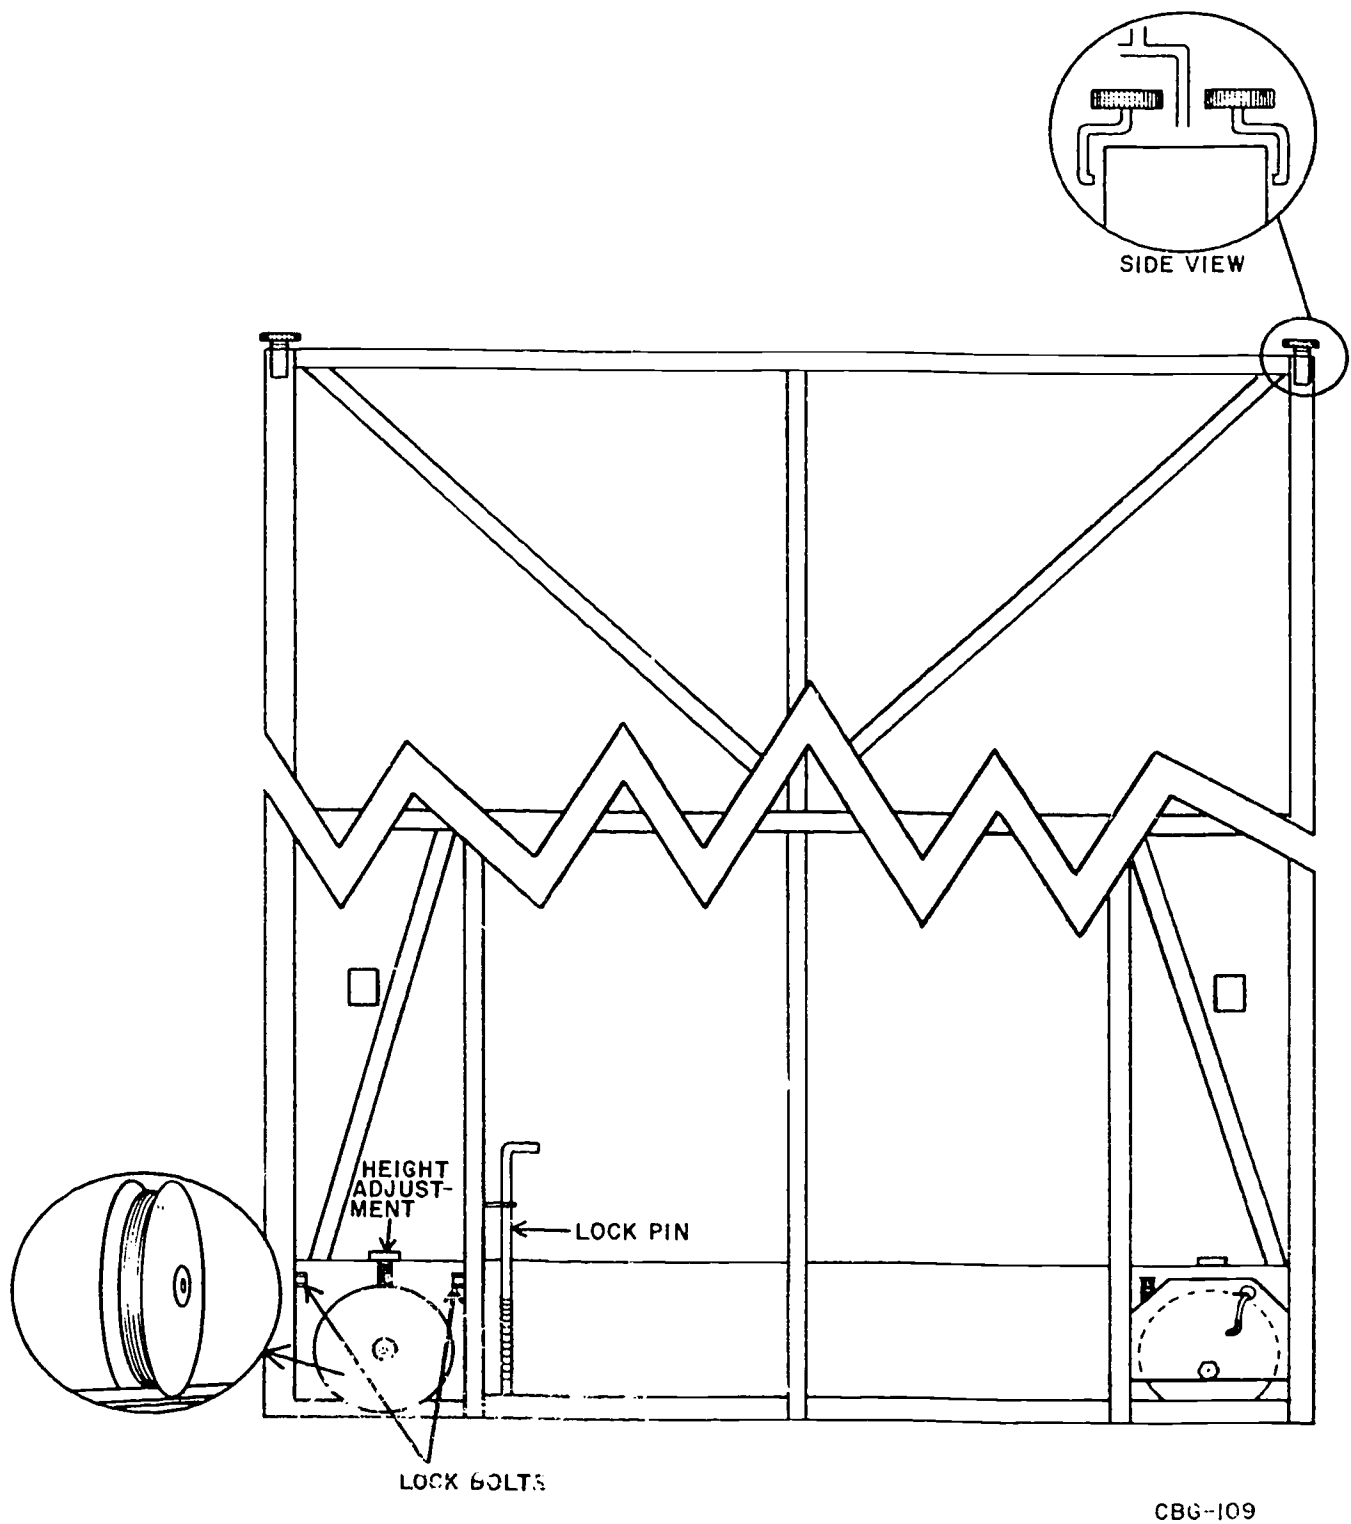

Figure 4-28. Hanger door adjustments.
**Door alignment.** The door must stand straight (plumb). A door that is out of plumb can be corrected by adjusting the wheels up or down. Each door has its own design of wheel adjustment. Look it over. Check for lock bolts, and check the adjusting nut. Check the floor clearance at each wheel, from the bottom of the door to the floor. The doors must stand straight so that they will trip the limit switch just as they close to a snug fit (fig. 4-28).